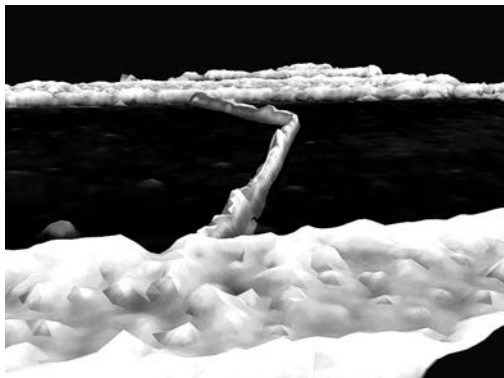
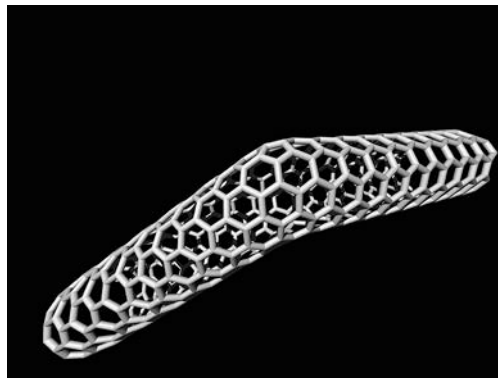

Figure 1a A 'kinked' nanotube joining electrodes (light) on a silicon dioxide base (dark)
Figure 1b A model of the nanotube joining the two electrodes
1. Look at Figures 1a and 1b. Figure 1a shows a nanotube being used to connect two electrodes. Figure 1b shows a model of this nanotube.
2. What types of nanotube are in the picture of the model (Figure 1b)?